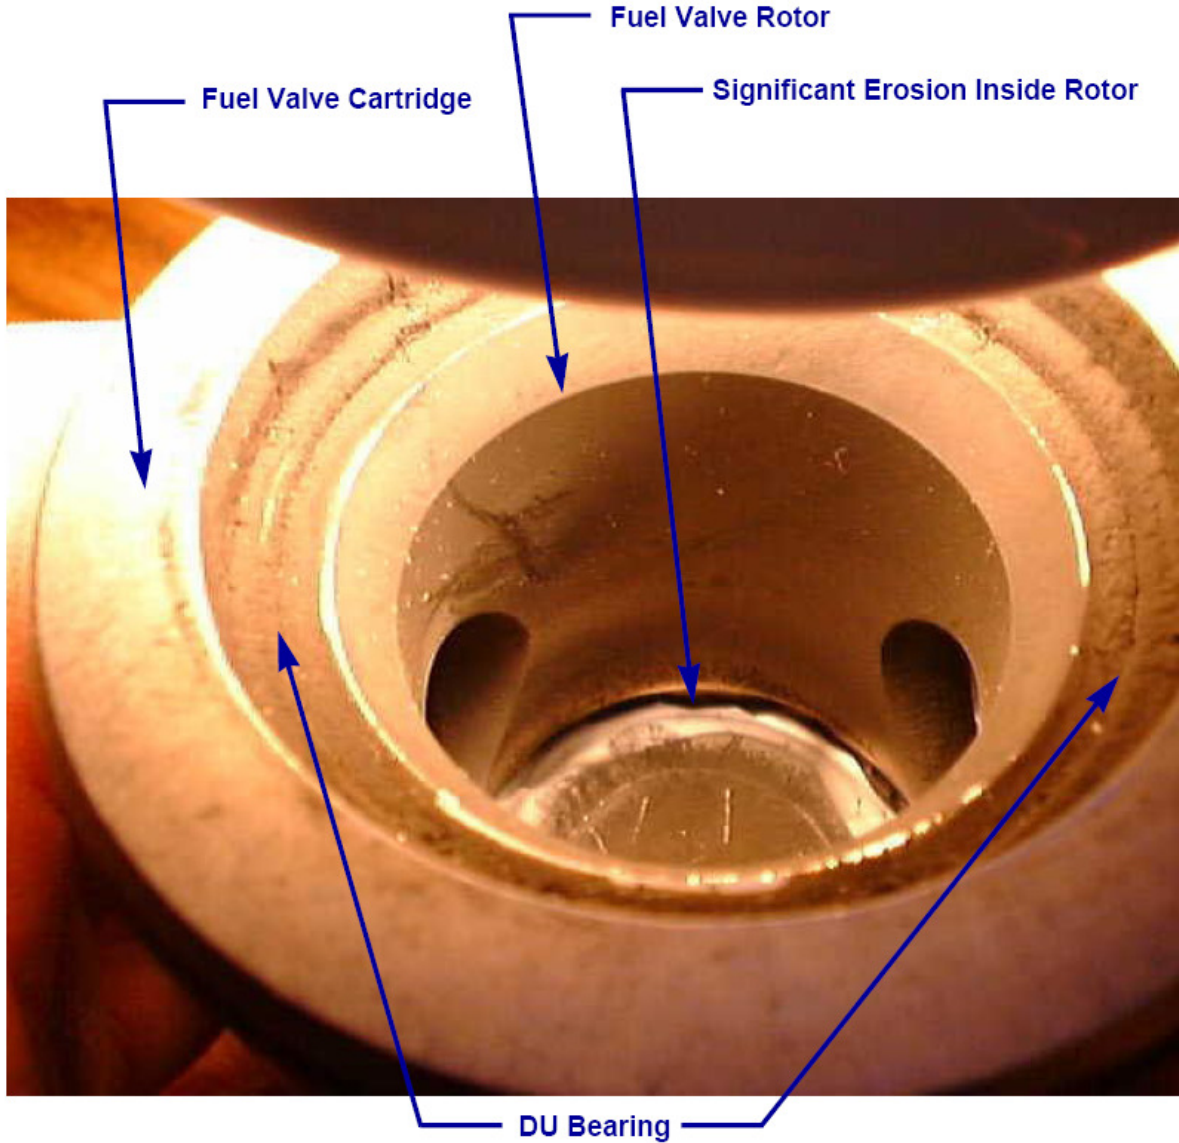

Fig 25 Example of Erosion on Inside of Rotor
- 19 Inspect the inside bore of the rotor for erosion (see Fig 25). Any erosion that has reduced the wall thickness of the rotor by more than 50% is considered significant, and a replacement valve cartridge should be installed.
- 14 Inspect the inside bore of the rotor for erosion (see Fig 25 on page 69). Any erosion that has reduced the wall thickness of the rotor by more than 50% is considered significant, and a replacement valve cartridge should be installed.